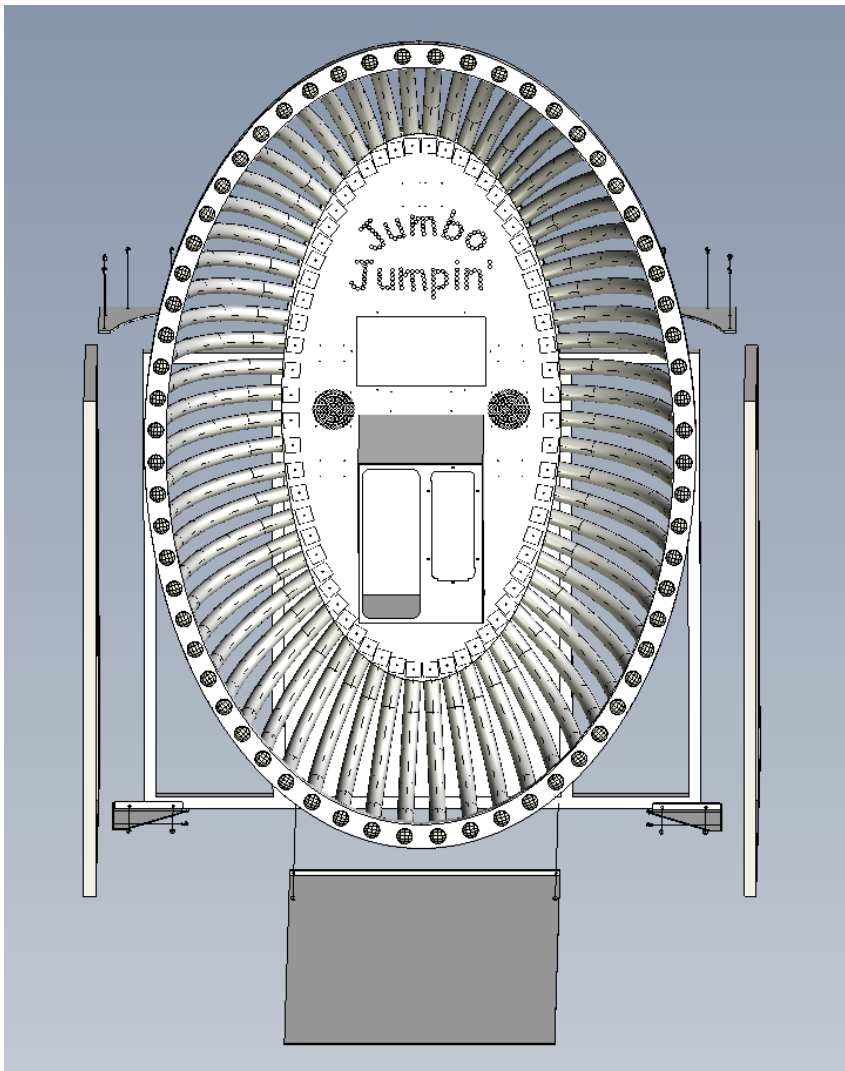

Figure 1
3. Carefully raise the main game back panel to a vertical position and attach the left and right side supports using the supplied 16-bolts and 4 mounting brackets. See Figure 1.
4. Place the floor mat into position and attach it to the lower back panel frame using the supplied 2 bolts. See Figure 1.